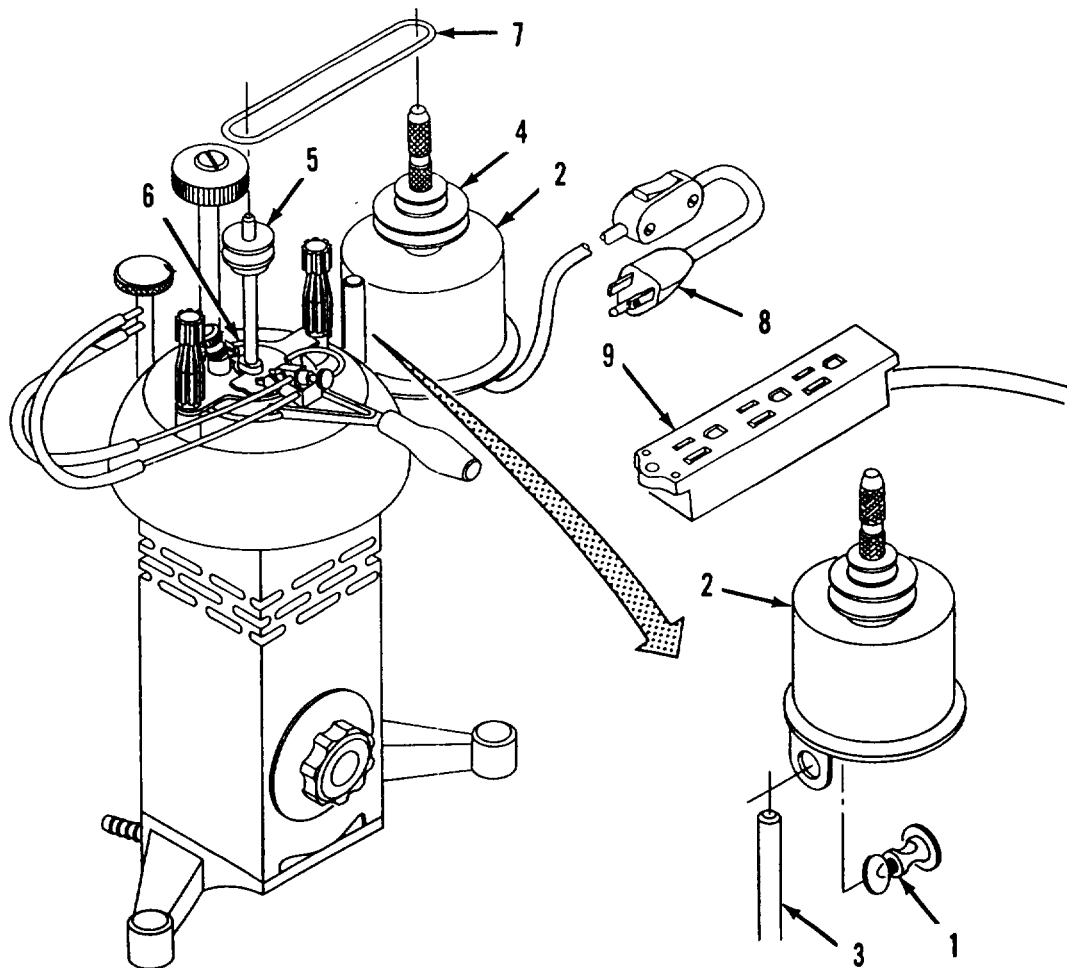

Figure 2-8. Slow Speed Stirrer.
(10) Install slow speed stirrer as follows: Refer to figure 2-8.
- (a) Place clamp (1) through mounting hole in bottom of slow speed stirrer (2).
- (b) Position slow speed stirrer (2) and clamp (1) on support rod (3).